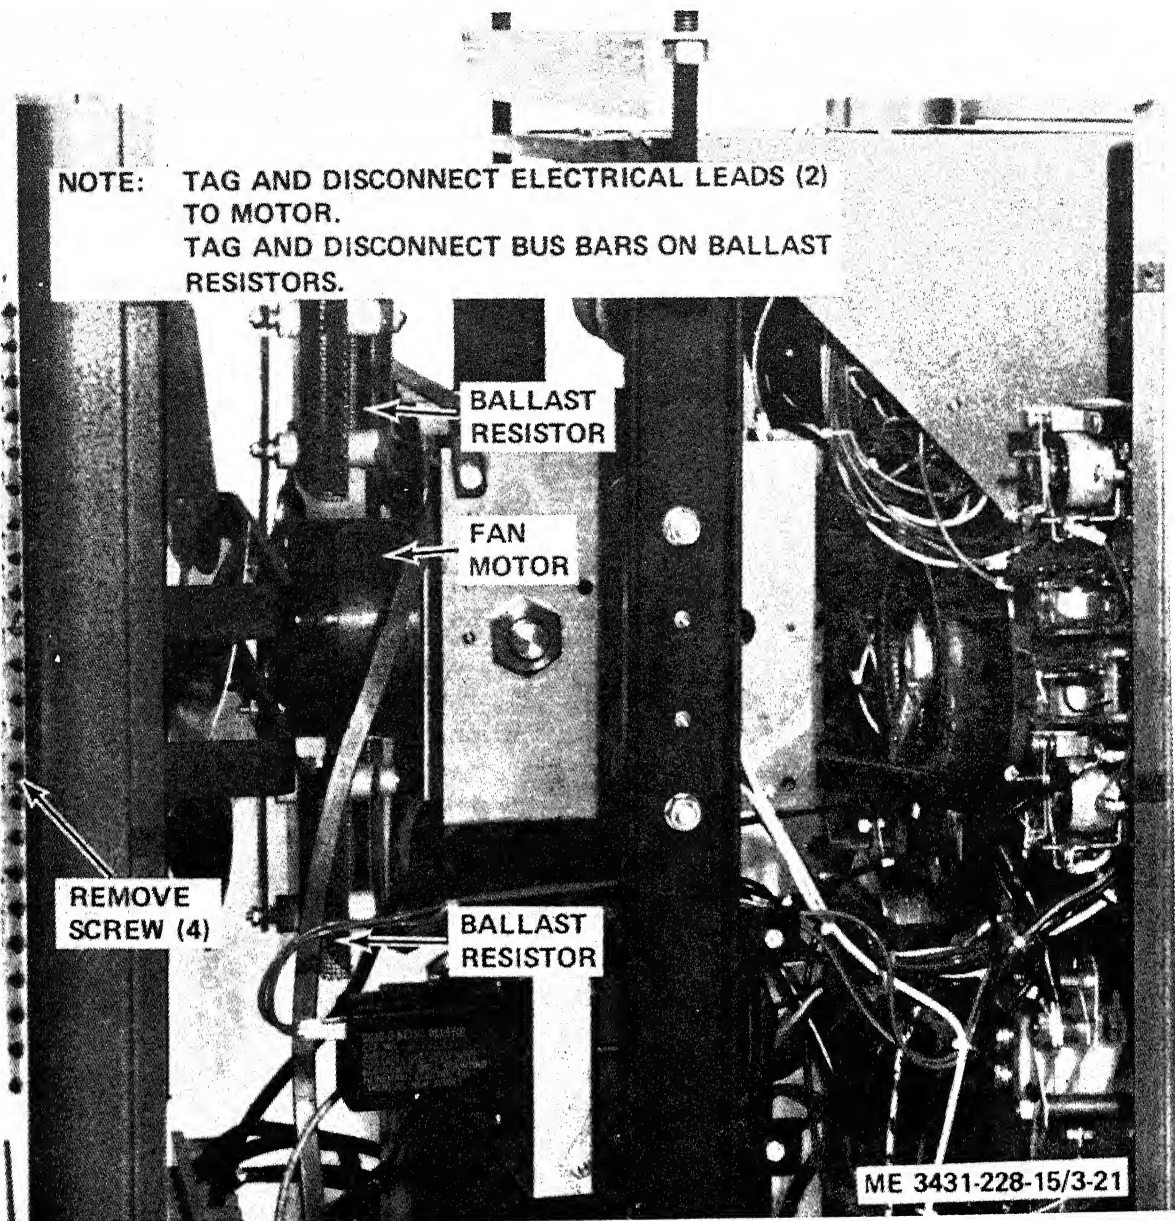

Figure 3-21. Fan motor and guard assembly, removal and installation.
(2) Remove the welding machine top and housing (para 3-20). Rear panel may be left attached to base if desired.
(3) Refer to figure 3-21 and remove the assembly.
(1) Refer to figure 3-21 and install the assembly.
(2) Install the top and housing (para 3-20).